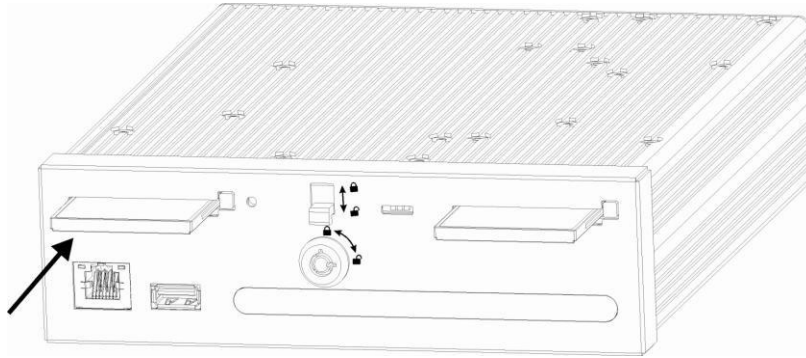

Figure 3-2
2) Install CF card. Now you can see an interface shown as in Figure 3-2. Please follow the arrowhead to insert the CF card to the slot.
Video output includes a BNC(PAL/NTSC BNC (1.0V_{P-P}, 75Ω) output and a VGA output. System supports BNC and VGA output at the same time. See Figure 3-2.